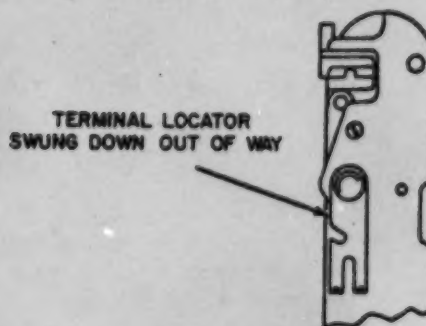

Figure 5.
- d. Turn the locator stop down and out of the way (figure 5).